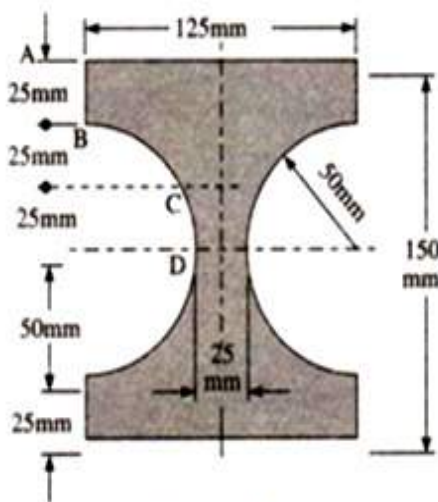

Figure 2
- For the section shown in Figure 2, determine the shearing stresses at A, B, C and D for a shearing force of 200 kN and find the ratio of the maximum to mean shear stresses.